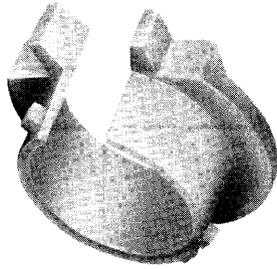

Fig. 13—811455824 (P-14E582) Retainer Ring
(1) The 500W,Y, YM, 514B, and BM telephone sets can be equipped with a retainer ring (Fig. 13) to prevent pilferage of the lamp cap assembly.
(2) Install retainer ring as follows.